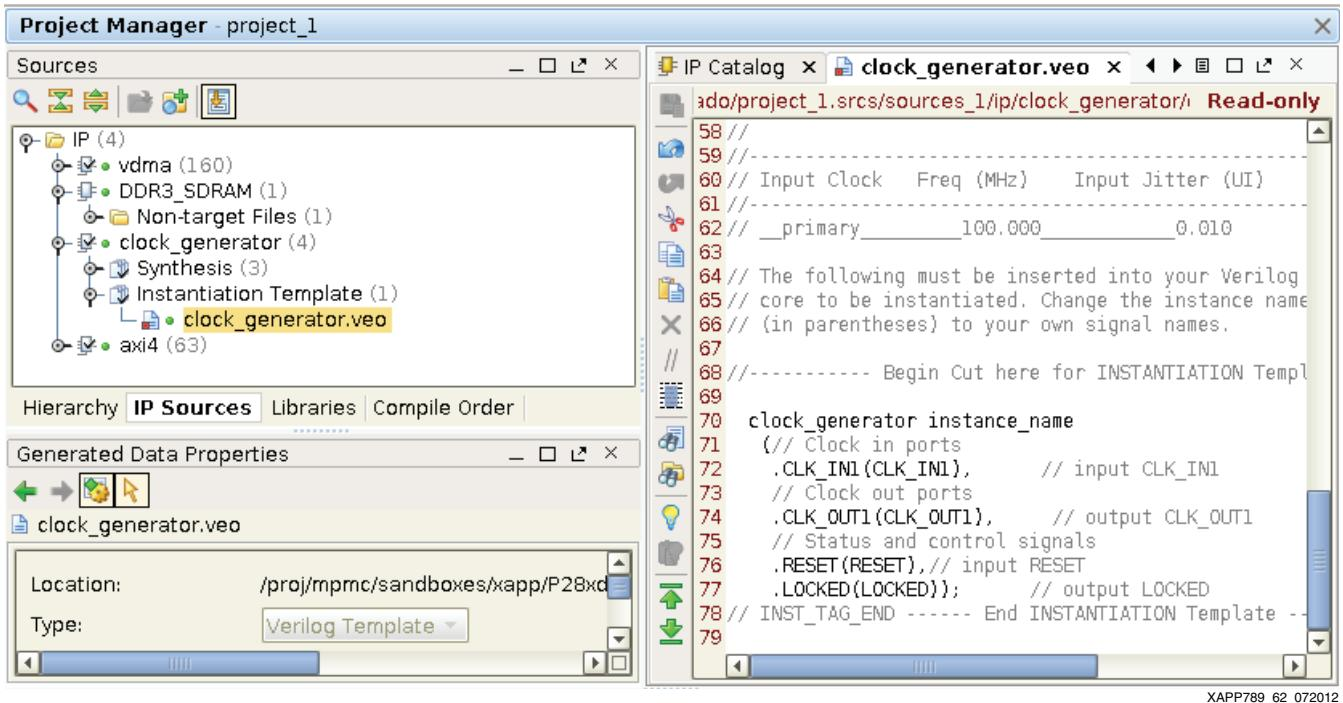

Figure 62: View Instantiation Template
57. Open the `clock_generator > Instantiation Template > clock_generator.veo` file in the IP Sources tab of the Sources window to view the instantiation template (Figure 62).